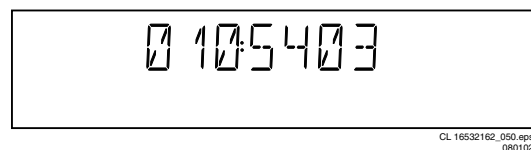

Figure 5-34
The loop test will perform the same nuclei as the dealer test, but it will loop through the list of nuclei indefinitely. The display of the DVD player will display not only the three digits indicating correct/faulty modules and the last found error code (as mentioned, faults are detected as far as they can be within the scope of the diagnostic software), but also a loop counter indicating how many times the loop has been gone through. If an error was detected, the display will remain as in figure 5-34 until the user presses the PLAY key and then it will continue to the next loop.
**After one loop cycle:** Display the 3-digit module bits together with the last error code which occurred in the loop test. The 4 digits at the right side of the display (fig. 5-34) show the last error that was found during the loop test. The leftmost two digits (54) of this code indicates which nucleus resulted in a fault. The rightmost two digits (03) refer to the faultcode within that nucleus. For further explanation of this error code, refer to chapter 5.8 (Nuclei Error Codes).